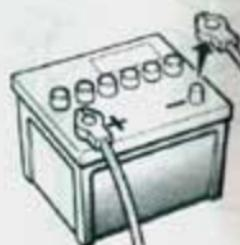

Fig. 2
- Make sure to take off the (-) side connector on the car battery to prevent short circuits. (Fig. 2)